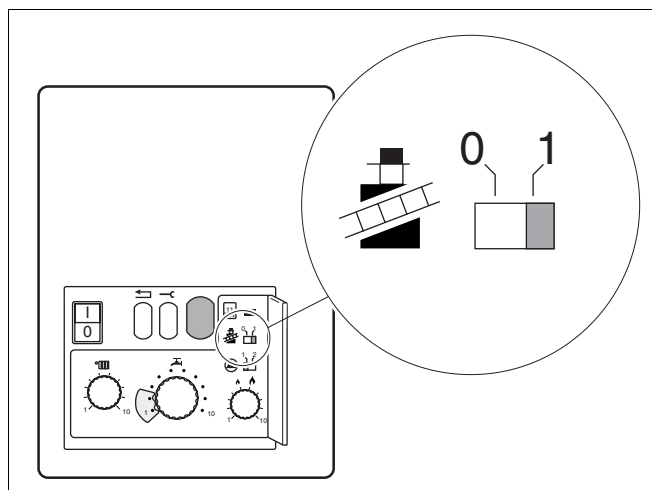

fig. 54 Chimney sweep switch
- Set chimney sweep switch (fig. 54) to “1”.